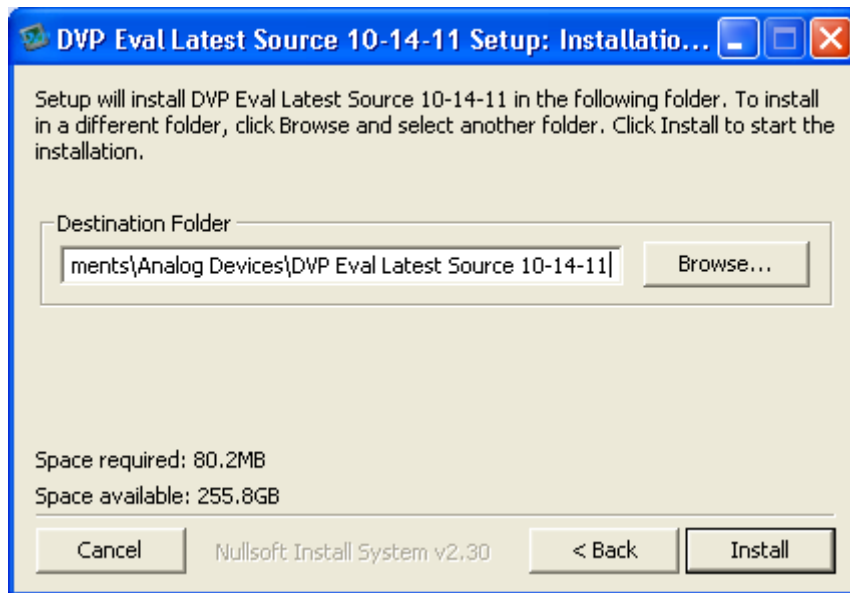

Figure 3. Installation Destination for DVP Eval Program
4. A new window appears (refer to Figure 3), prompting you to select the installation destination folder. Press the **Install** button.
| Figure 3. Installation Destination for DVP Eval Program | 8 |